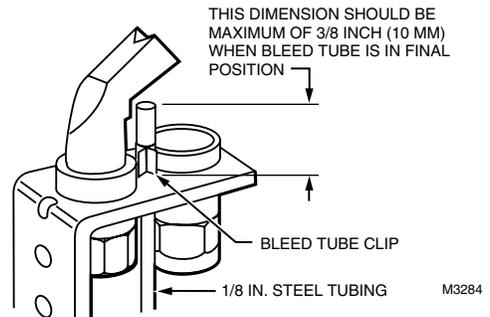

Fig. 22. Install bleed gas tubing.
2. Push the clip into place as shown in Fig. 22.